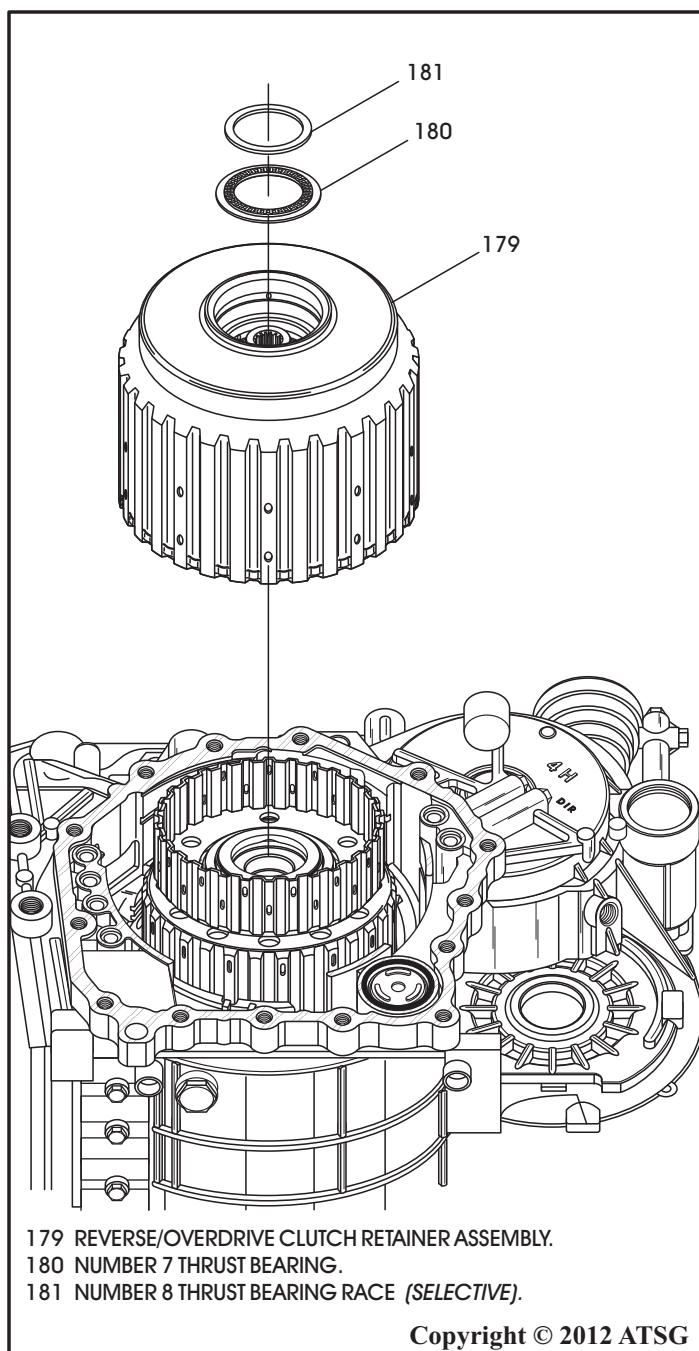

Figure 81
61. Remove number 8 *selective* thrust race and the number 7 thrust bearing assembly, as shown in Figure 81.
62. Remove the reverse/overdrive clutch housing assembly, as shown in Figure 81.